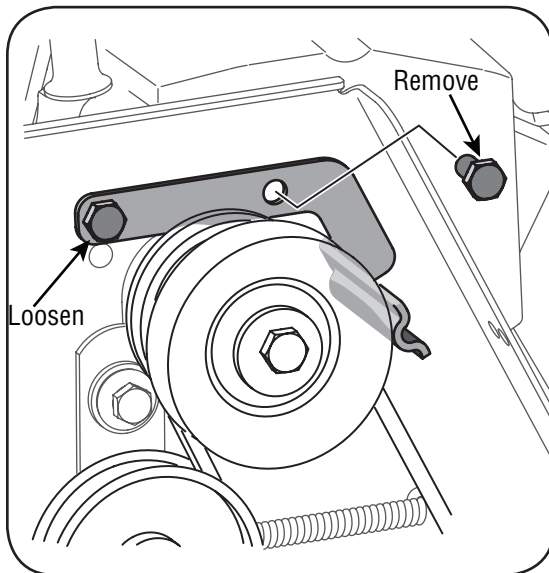

Figure 6-6
3. a. Loosen the bolt shown in Figure 6-6 securing the belt keeper bracket and remove the other bolt.